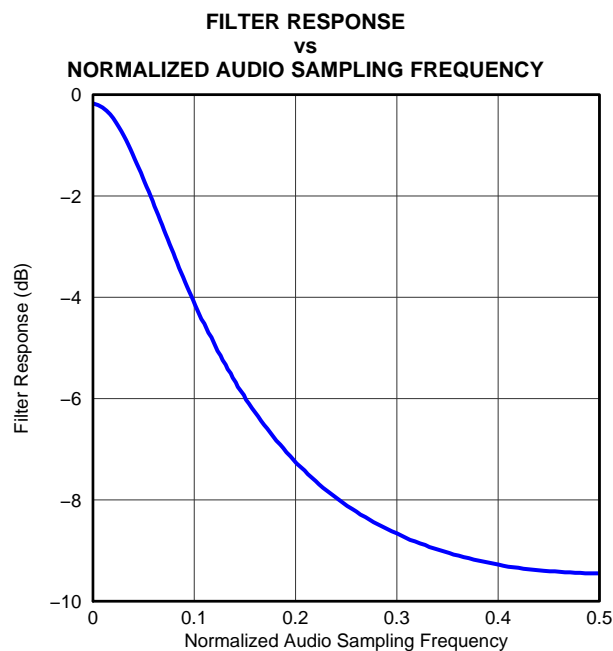

Figure 3-9. Digital De-Emphasis Filter Response – 44.1 kHz Sampling
(1) The sampling rates are derived from the 12-MHz master clock. The available oversampling rates do not produce exactly 8-kHz, 44.1-kHz, and 88.2-kHz sampling rates, but 8.021 kHz, 44.117 kHz, and 88.235 kHz, respectively. See Figure 3-9 through Figure 3-26 for filter responses.